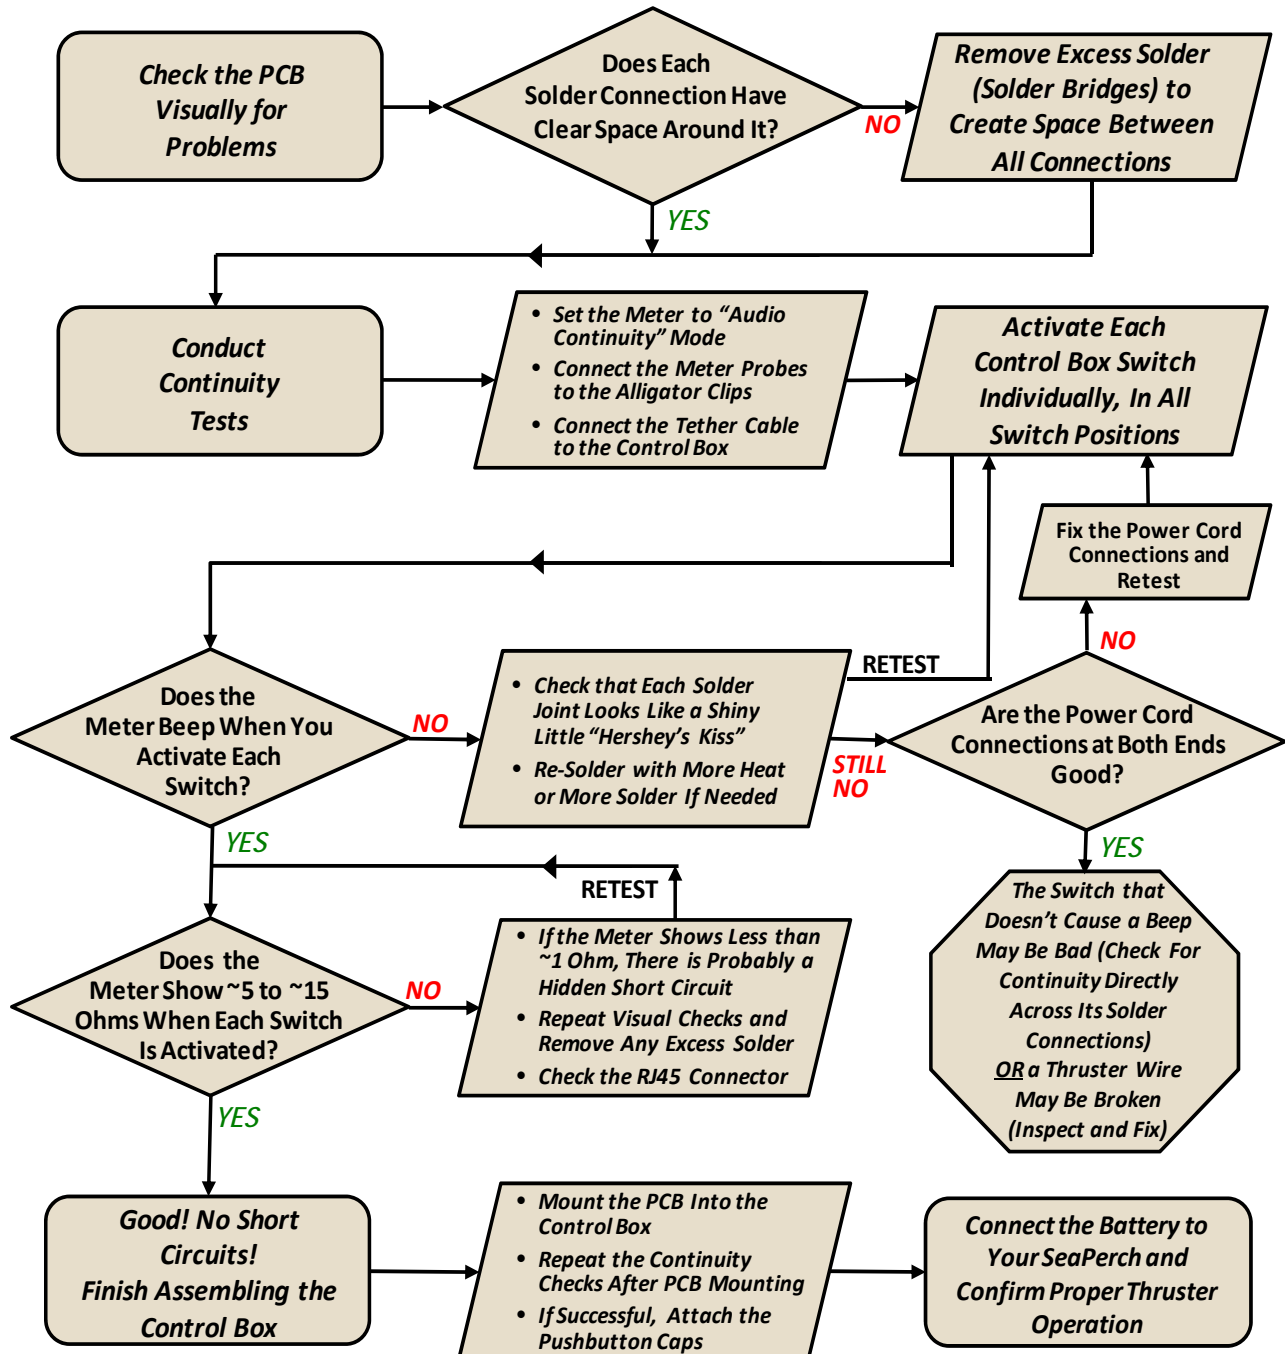

Figure 3.5-3: A Completed Control Box
8. Press the two **pushbutton switch caps** onto the actuator buttons, as shown in Figure 3.5-3.